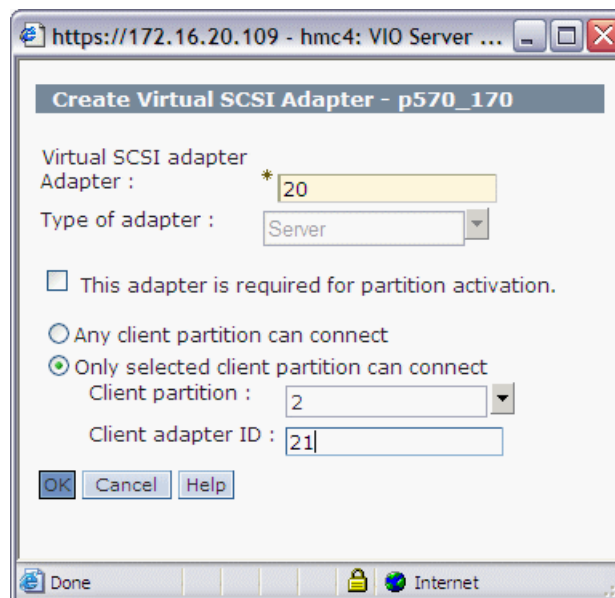

Figure 12-14 HMC Virtual SCSI server adapter for the NIM server
12. Click **Actions** and select **Create Virtual Adapter** → **SCSI Adapter** again to open the Create Virtual SCSI Adapter window shown in Figure 12-14 to create additional virtual SCSI adapters for client partition disks. We will create 4 client partitions later, so we need 4 server adapters with slot numbers 20, 30, 40, 50. Client slot is set to 21 for all clients.